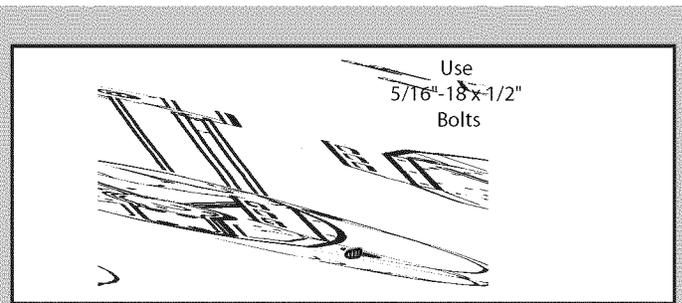

FIG. 1-5 Rail - Power head assembly.
1. Attach rail assembly to power head by aligning the sprocket onto the motor shaft. Use (3) bolts, 5/16" - 18 x 1/2" (Fig. 1-5).